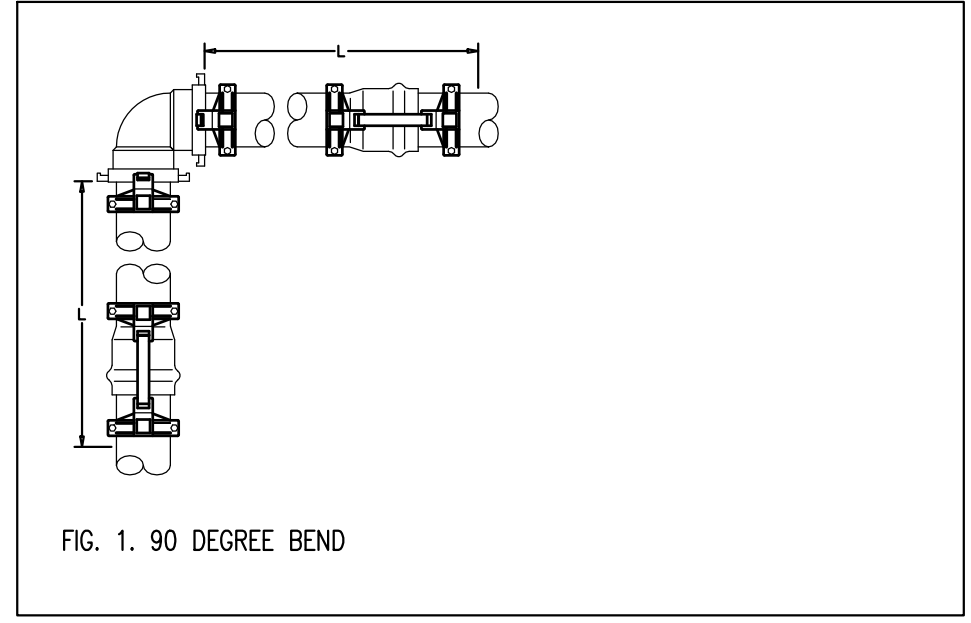

FIG. 1. 90 DEGREE BEND
- EXAMPLE: FOR A 90-BEND (FIG. 1) USING 125 PSI AND SANDY-CLAY SOIL, THE TABLE SHOWS:
- WHEN USING 20-FOOT LENGTH PIPE, BECAUSE 20 FEET IS WITHIN THE "L" LENGTHS, ADJACENT JOINTS OF THE 6 INCH AND 8" MUST BE RESTRAINED AS SHOWN IN FIG. 1. THE ADJACENT JOINTS TO THE 3 INCH BEND DO NOT REQUIRE RESTRAINTS BECAUSE THEIR DISTANCE OF 20 FEET IS OUTSIDE THE "L" DIMENSION OF 11 FEET.